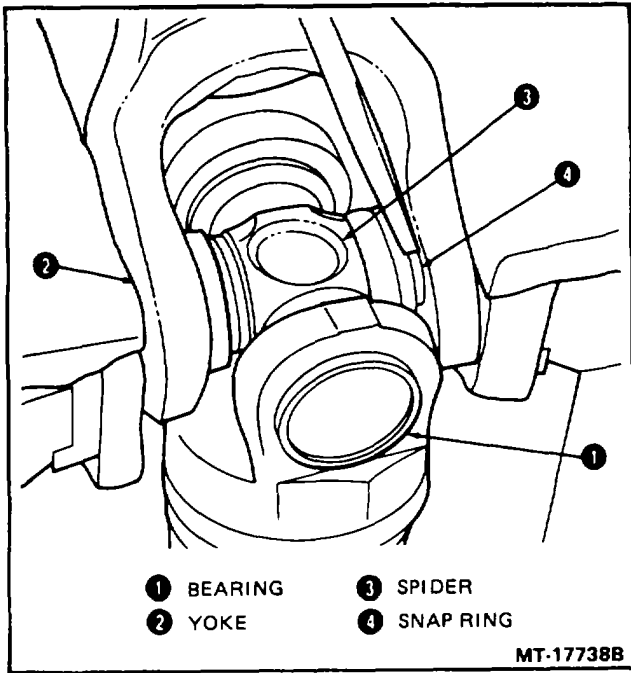

Figure 10 - Snap Ring Removal
1. Place the universal joint in a vise as shown in Figure 10. Remove the snap rings retaining the bearings in the yoke.